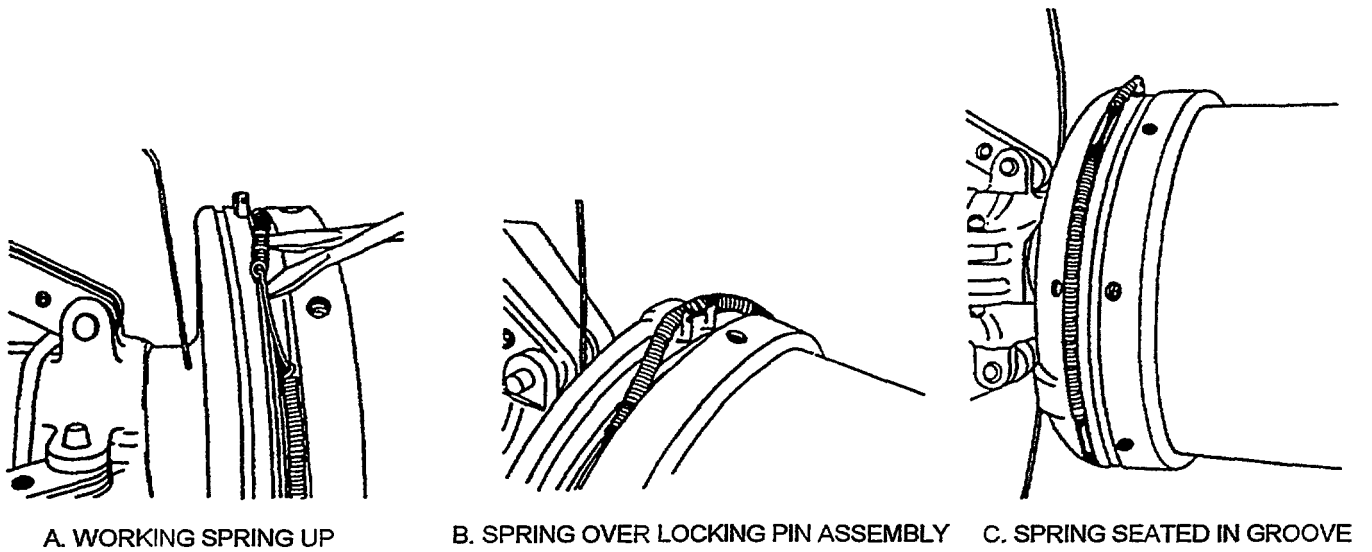

Figure 5-4C. Seating Garter Spring
- g. Work garter spring over locking pin assembly. Start at spring joint closest to pin assembly and work along spring (Figure 5-4C).